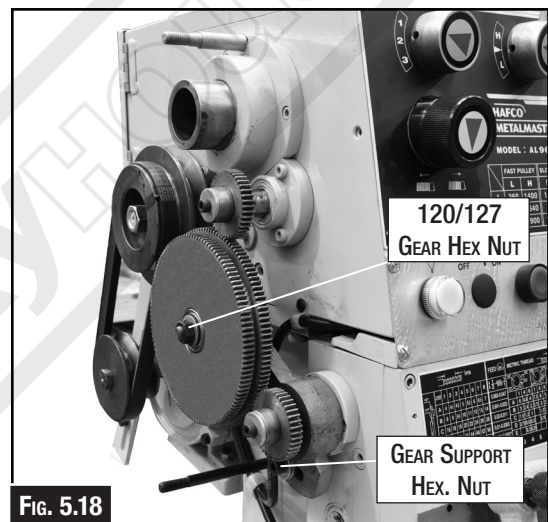

FIG. 5.18
4. While holding the 120T/127T gears, loosen the arm by undoing the gear support hex nut and slowly let the gears pivot down and away from the upper top gear, as illustrated. (Fig. 5.18)
5. Loosen the 120T/127T gear hex nut and slide the middle gear away from the bottom gear. The 120T/127T gears many need to be reversed. Undo the 120T/127T gear hex nut (Fig. 5.18) and reverse the gears.